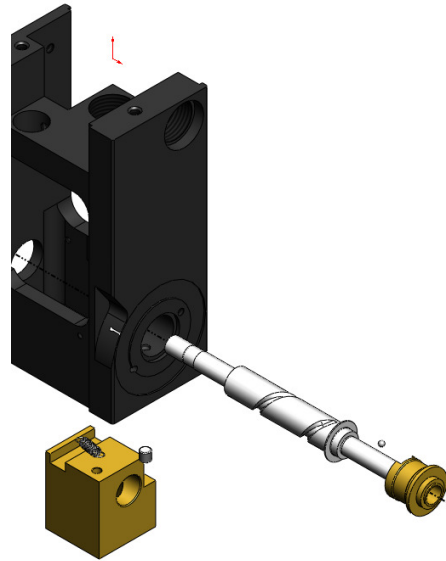

Figure 17
6. Remove the lead screw from the assembly. This should bring out all of the components shown in Figure 17. Care should be taken not to lose the small bearing within the assembly.